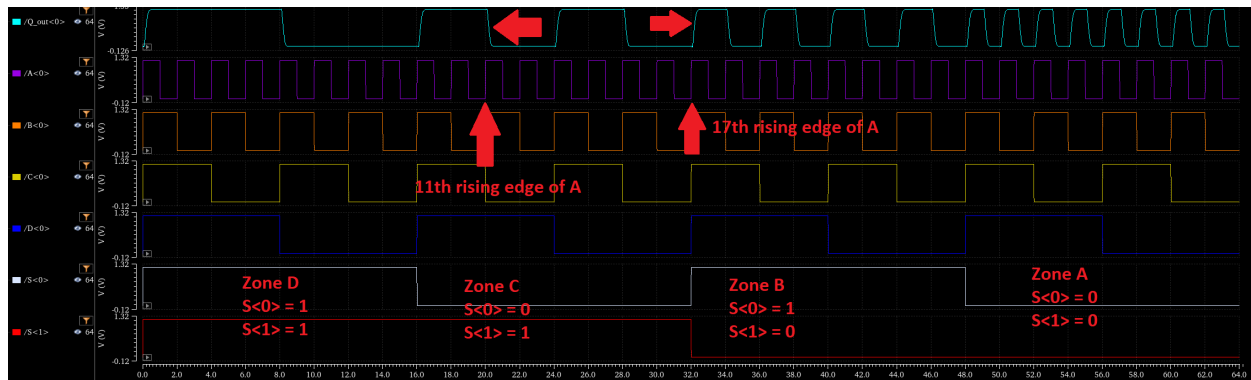

Figure 6 – Measure Different Delays
- ✓ Use the calculator to add four more delay expressions. You should have one rising edge and one falling edge delay for every pulse type (**A, B, C, D** - see Figure 6). After you run the simulation, depending on what edges you have chosen, you should have a result very similar (or same) as the following: